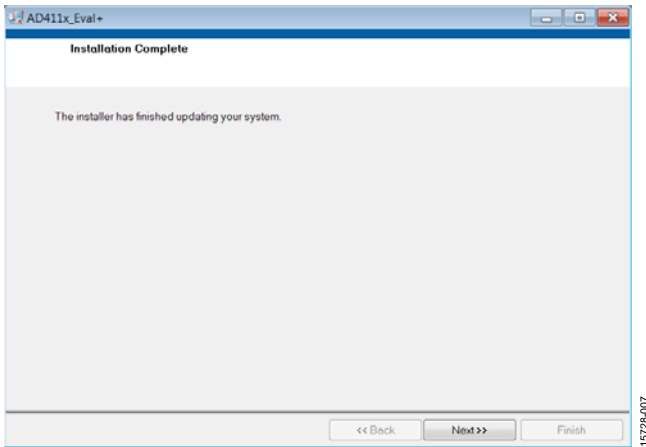

Figure 8. **AD411x Eval+** Software Installation: Indicating When the Installation Is Complete
7. The message in Figure 8 appears when the installation is complete. Click **Next**.